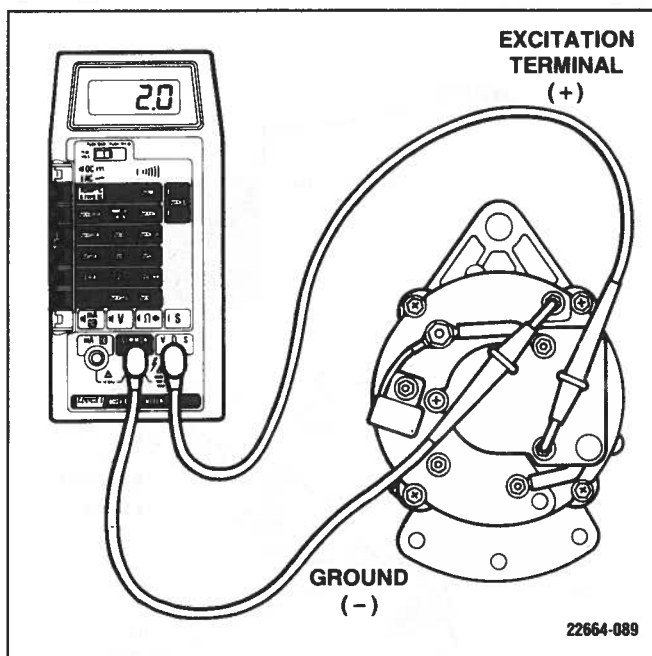

Figure 6-115. Testing Exciter Circuit
2. Turn ignition switch to "On" position and note voltmeter reading. Reading should be 1.3 to 2.5 volts. (Figure 6-115)